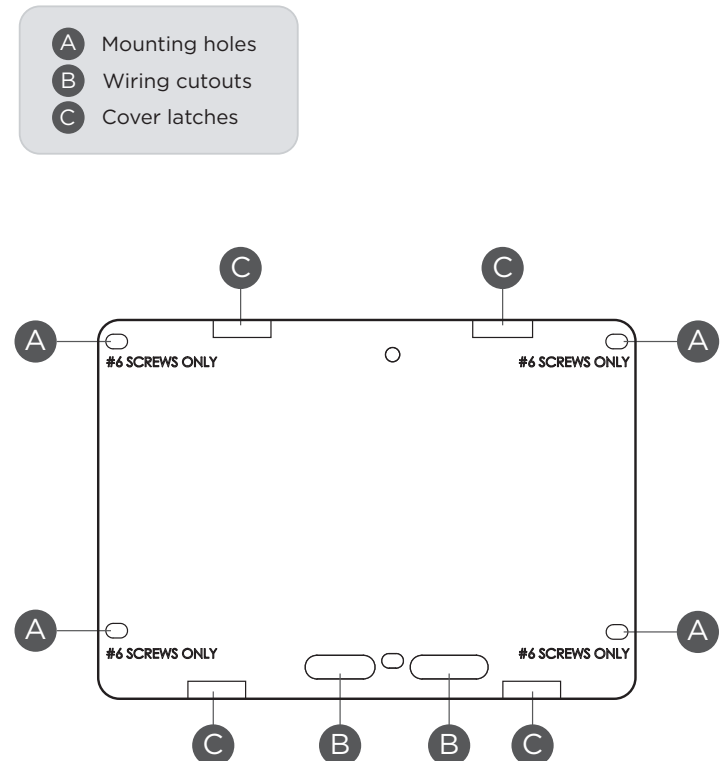

Figure 2: Mounting Hole Locations
1. Route the annunciator wires through the cutouts in the base. See Figure 2.